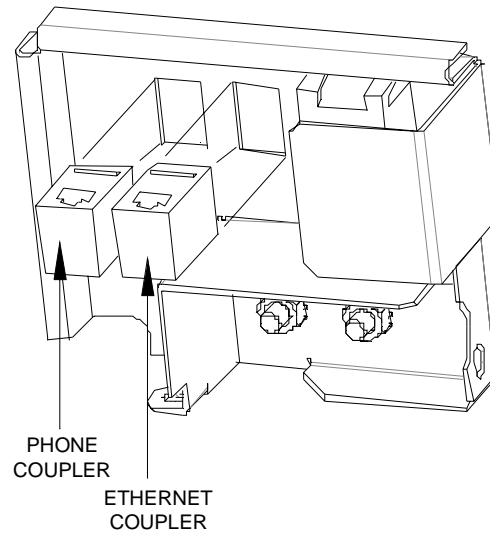

FIGURE 15 - MAXX SELECT/SLIM MAXX - COUPLER INSTALLATION
*If your game has vertically oriented access holes on the power entry assembly, see MAXX A - Figure 15.*
37. **MAXX A:** Secure the coupler retention bracket with the thumbnuts. Orient the supplied, snap-in Ethernet coupler and insert it into the right access hole in the coupler retention bracket. Then orient the supplied, snap-in phone coupler and insert it into the left access hole in the coupler retention bracket. See Figure 15.